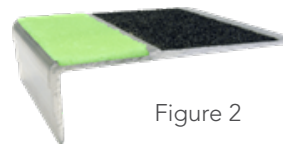

Figure 2
- Use glow-in-the-dark nose tread covers for stairwells and other areas with potential deficient lighting. (See Figure 2.)